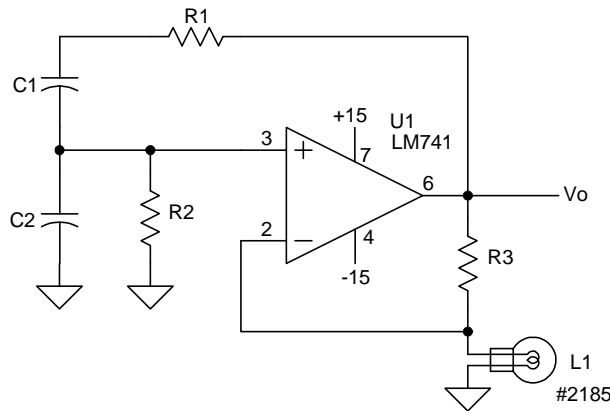

Figure 2: Wien Bridge Oscillator
- 2.1 Build the circuit in Figure 2. Use $R_1 = R_2 = 4.7K$, $C_1 = C_3 = 0.1 \mu F$, and $R_3 = 390$ ohms – this value might have to be adjusted in step 2.2.